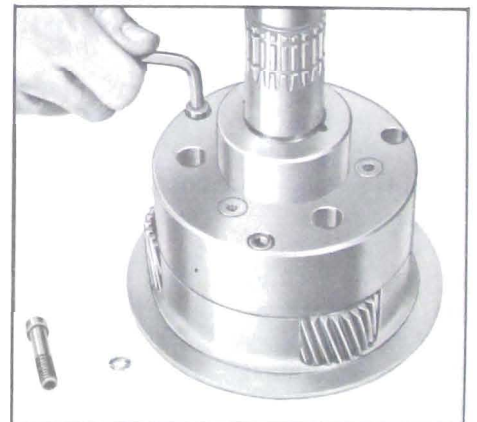

Figure 5-102—Removing Planet Carrier Screws
2. Remove three planet carrier screws and special lock washers, using a 7/32" hexagon (Allen) wrench. See Figure 5-102. A used universal joint front yoke may be placed on output shaft and held with a bar while loosening the screws.